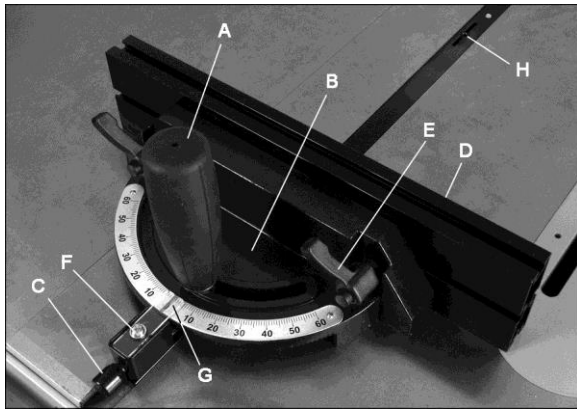

Figure 17
Refer to Figures 17 and 18.
2. Loosen lock handle (A, Figure 17) by turning counterclockwise.
3. Pull out spring-loaded knob (C) and rotate knob until body (B) of miter gauge is at desired angle as indicated on scale.
4. Tighten lock handle (A).
The extension plate (D, Figure 17) can be adjusted by sliding to the right or left or removed entirely.
NOTE: The bar of the miter gauge has two slots with *set screws* (H, Figure 17). Adjust these set screws (4mm hex key) to eliminate any play between bar and miter slot.